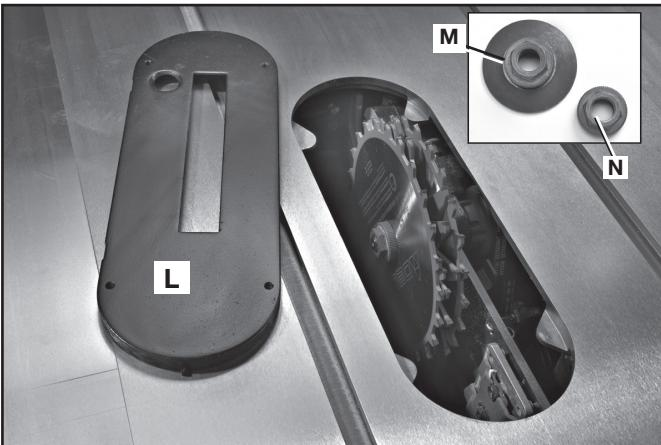

FIG. 65
⚠CAUTION: The accessory dado head set throat plate (L) Fig. 65 must be used in place of the standard throat plate. Be sure the throat plate is level to the table before you proceed.
NOTE: The standard outer arbor flange nut assembly (M) Fig. 65 cannot be used with dado blade sets. A special nut (N) is included with the Unisaw to be used in dado applications. Tighten this arbor nut against the dado blade set. **Do not discard the outer arbor flange nut. It will be needed when reattaching the standard blade to the arbor.**
4. Attach the dado head set to the saw arbor using the arbor nut (N) Fig. 65.
NOTE: The standard outer arbor flange nut assembly (M) Fig. 65 cannot be used with a molding cutterhead. A special nut (N) is included with the Unisaw to be used in these applications. Tighten this arbor nut against the molding cutterhead. **Do not discard the outer arbor flange nut. It will be needed when reattaching the standard blade to the arbor.**